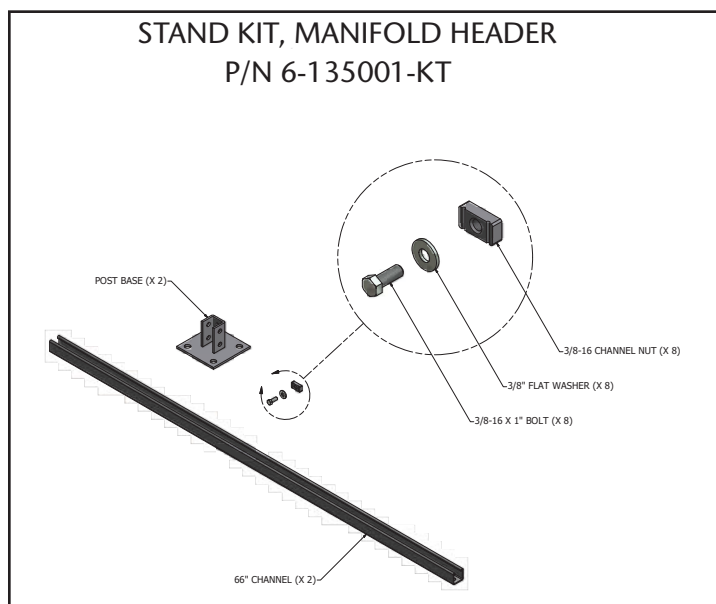

Figure 6
For floor mounting the manifold control panel and headers, a manifold control panel stand kit and an appropriate number of manifold header stand kits should have been ordered separately. One manifold control panel stand kit contains all items needed to mount the control panel. Depending on the number of header segments, one or more header stand kits are required. A header stand is required for each header segment. Each header stand kit contains two vertical stands and all necessary items to support one 2-cylinder or 3-cylinder header segment on each side of the manifold. Verify contents of stand kits (Figures 6 and 7):
14. Assemble u-bolt and bracket hardware as shown in Figure 6. Tighten u-bolt nuts.